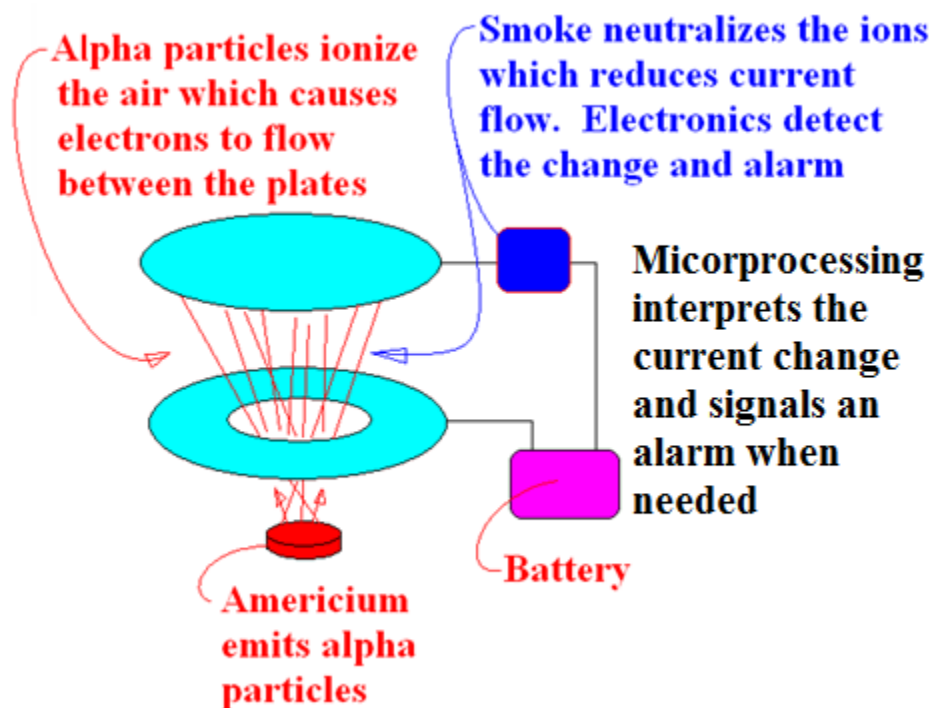

Figure 37: Conceptual graphic of an ionization type of smoke detector
- Ionization (see Figure 37)
Ionization fire detectors respond quickly to fires but require the combustion products to enter into the detector sensing element. This type of detector contains a small amount of radioactive material that ionize the air. The products of combustion in contact with the ionized air and affects the air's conductivity. The electronics sense the change in conductivity across the air gap and an alarm is sounded. The performance of the ionization fire detector is adversely affected by humidity and other gases. Figure 37 below conceptually shows how an ionization-type smoke detector operates.